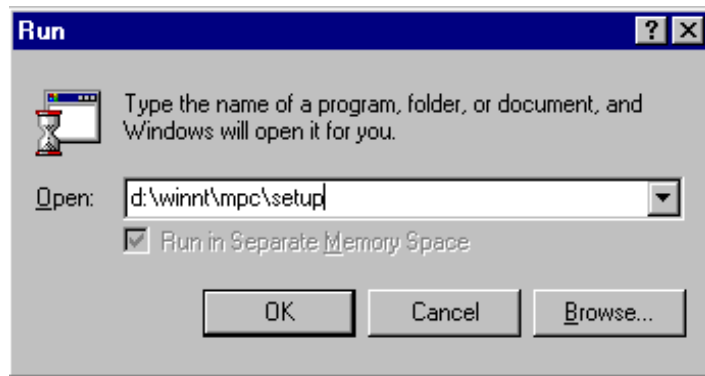

Figure 5-2. Run Dialog Box
1. From the **Start** menu of your Windows NT Server console, click the **R**un command. The Run dialog box will display (Figure 5-2).